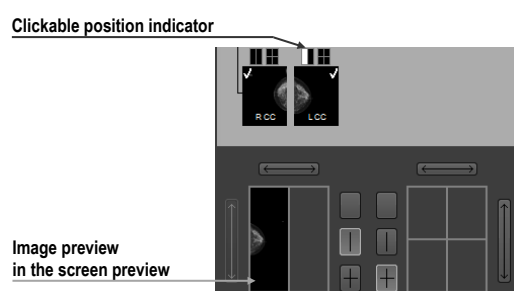

Figure 469 – Selecting an image to view using the rectangle indicator
- Click the desired rectangle in the screen position indicator representing the view in the working area (see Figure 469). The image is displayed in the appropriate view in the workspace on the left or right monitor.